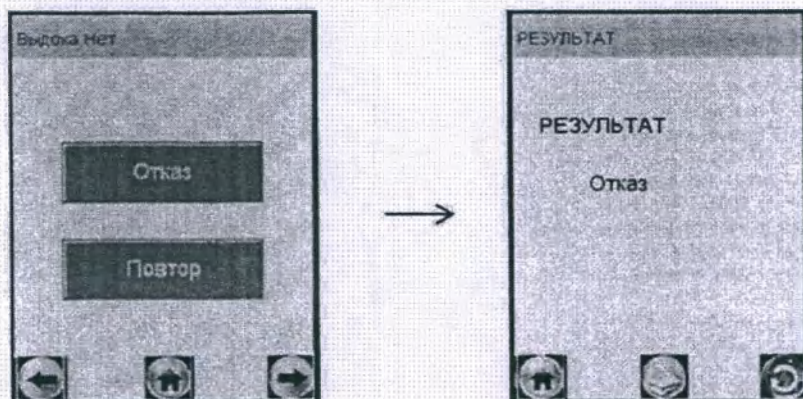

Figure 21 – Result of “Refusal of measurements”
2.10.1 **Blow**” window of readiness for sampling will be replaced by the “**No exhalation**” window (Figure 21, left).
2.10.2 If the subject refuses to take measurements (the subject refuses to exhale), the analyzer provides the ability to interrupt the measurement procedure, while recording the fact of refusal to take measurements (if necessary). To do this, click on the virtual button “**Refusal**” - a message about refusal of measurements will appear on the screen (Figure 21, right).